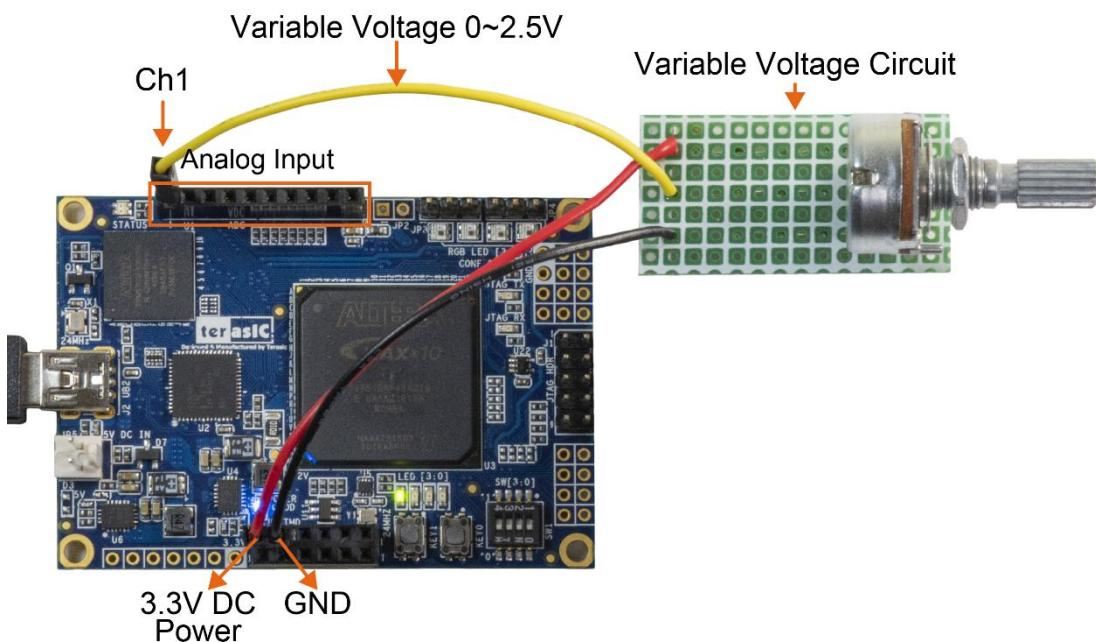

Figure 3-10 Connect analog source to the analog input
- Connect analog source to the analog input as shown in **Figure 3-10**.